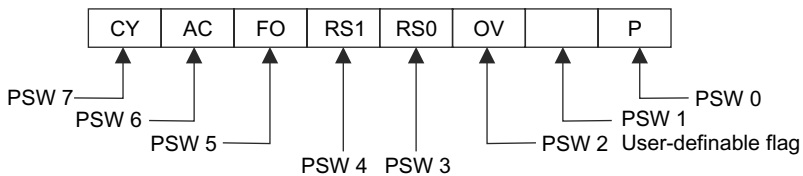

Fig. 13.4 Program status word (Bit Addressable)
This is a special function register. This register consists of the different status bits that reflect the current state of microcontroller. Figure 13.4 shows the PSW which resides in the SFR space. It contains the Carry (CY), the Auxiliary Carry (AC), the two register bank select bits (RS1 and RS0), the Overflow flag (OV), a Parity bit (P), and two user-definable status flags. The carry bit serves the function of a carry bit in arithmetic operations and it also serves as the accumulator for a number of Boolean operations. The auxiliary carry bit is used in addition of BCD numbers. This bit is set if a carry is generated out of bit 3 into bit 4. F0 is a general-purpose flag bit available for user applications. The program status bits and their functions are given in Table 13.5. The bits RS1 and RS0 are used to select the register bank from four register banks as depicted in Table 13.6. The overflow flag is used for signed arithmetic operation to determine whether the result is out of range after a signed arithmetic operation. When the result is greater than +127 or less than -128, the OV flag bit is set.